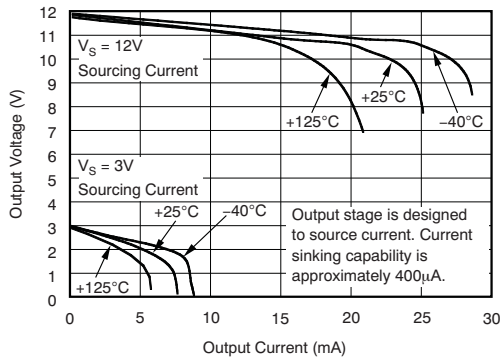

图 8. Positive Output Voltage Swing vs Output Current
(2) Total output error includes effects of gain error and V_{OS} .
(3) Linearity is best fit to a straight line.
(4) For details on this region of operation, see Accuracy Variations section in Device Functional Modes.
(5) See Figure 8.
(6) Specified by design.